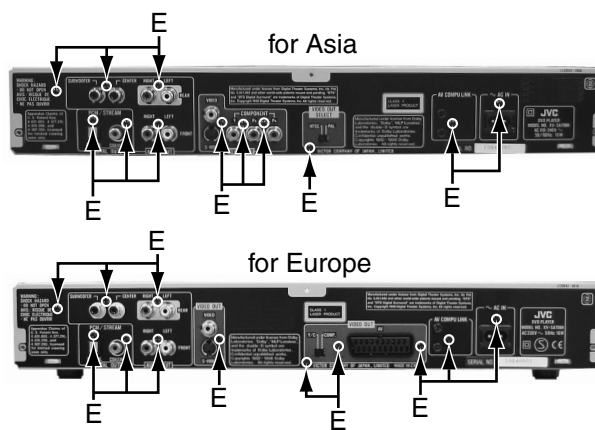

Fig.6
■ Removing the rear panel (see Fig.6)